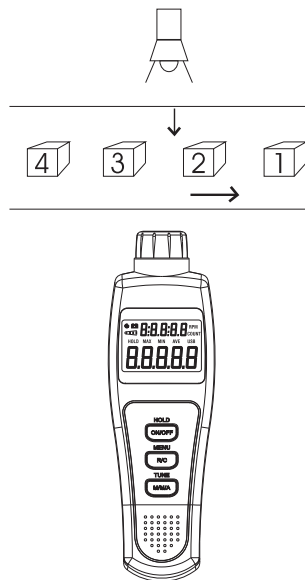

Figure 5
Receiving Light Source Outside (see figure 5)
2. Set up the Meter, object under counts and outside light source as figure 5